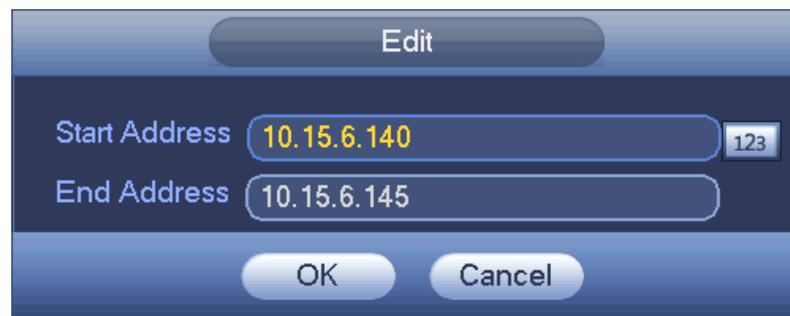

Figure 4-90
- Edit: Click it to edit start address and end address. See Figure 4-90. System can check the IP address validity after the edit operation and implement IPv6 optimization.